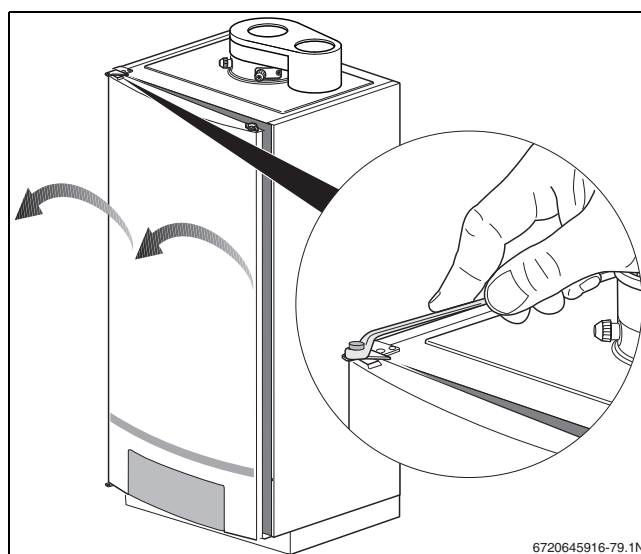

Fig. 82 Removing the boiler door
- ▶ Unscrew the bolt from left-hand top hinge of the boiler door and remove it together with the washer (→ fig. 82).